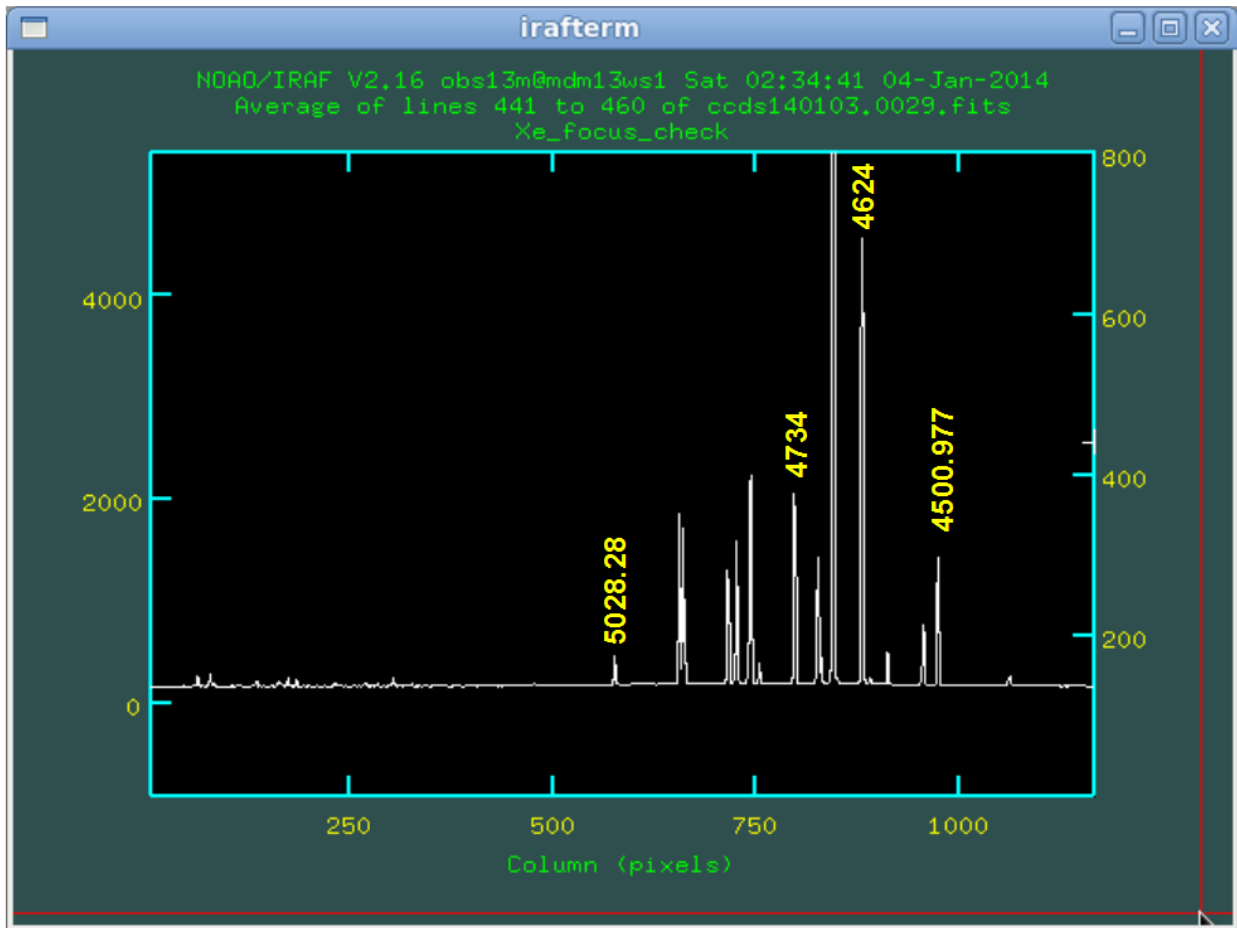

Figure 4: Xenon spectrum with central wavelength of 5000Å. Several particularly useful comparison lines of Xenon are identified.
- 2.** Using the Xenon spectral line atlas in the CCDS manual for the range from 4000Å to 6000Å (see Figure 4 below), identify two unblended spectral lines at either end of the CCD. Good lines to use are the $\lambda 4501\text{\AA}$ and 5028\AA lines, located approximately at pixels 980 and 580, respectively. Note that the red end is to the left when the spectra are read out from CCDS.